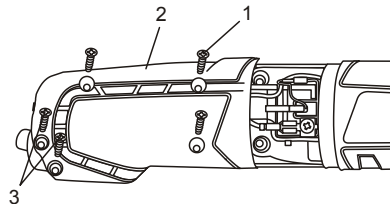

Fig. 11
2. Lay the tool on its left side on a towel or on corrugated (Fig. 11).
3. Remove 5 screws (1) from the right hand side of the handle (2) using a #2 \oplus screwdriver.